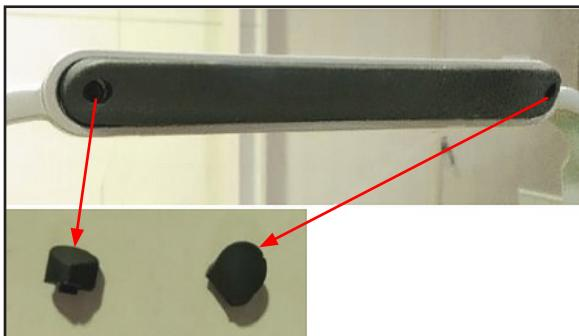

Figure 3-11 Rubber Screw Caps
- 6.1 Remove the rubber screw caps shown in *Figure 3-11*.